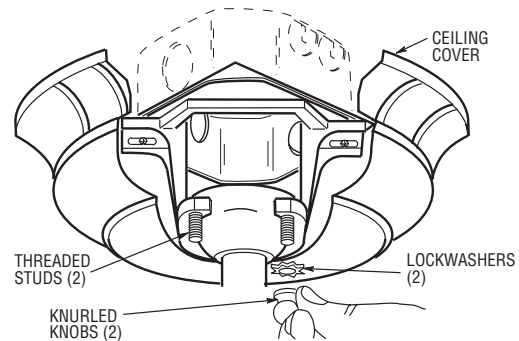

Figure 14
4. Lift the ceiling cover up to the threaded studs and turn until studs protrude through the holes in the ceiling cover (Figure 14).
5. Secure the ceiling cover in place by sliding lockwashers over the threaded studs and installing the two knurled knobs (supplied). (Figure 14). Tighten the knurled knobs securely until the ceiling cover fits snugly against the ceiling and the hole in the ceiling cover is clear of the downrod. Your fan is now wired to be turned on and off from the fan switch.